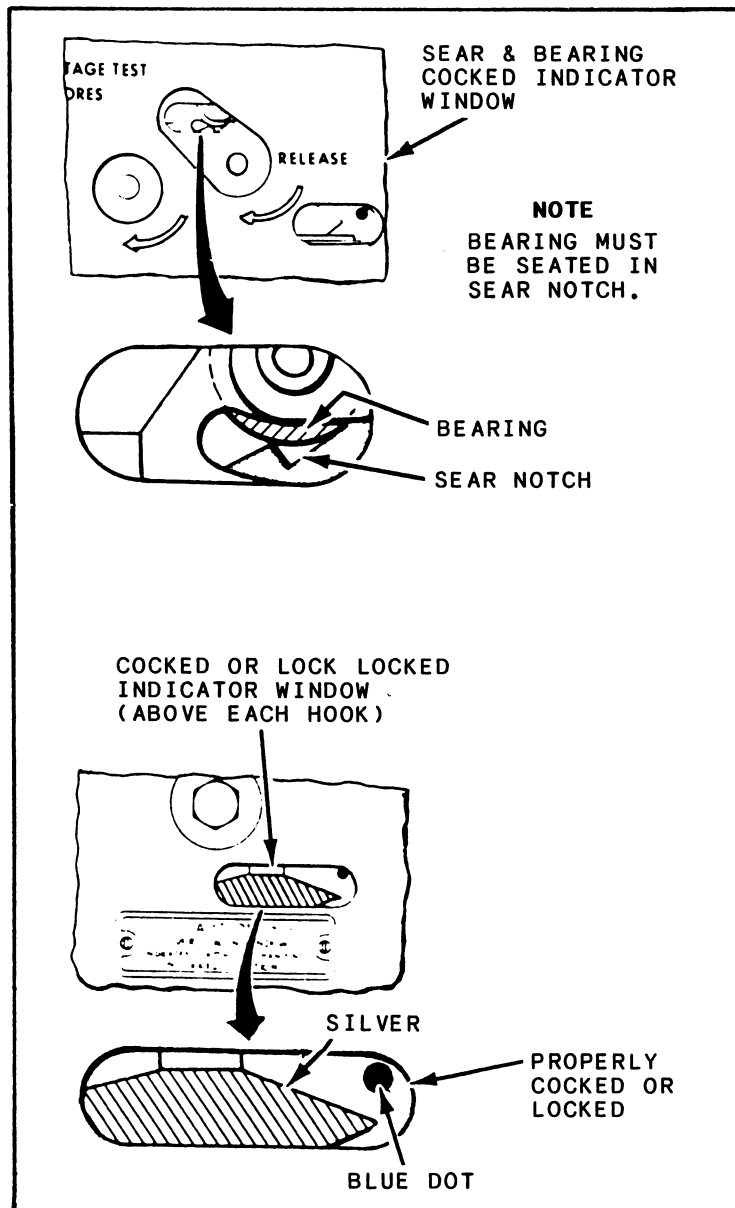

Figure 13-3.—Parent rack cocked and hook locked indication.
- the silver diamond covers the blue diamond field on the latch bar above each hook (fig. 13-3).